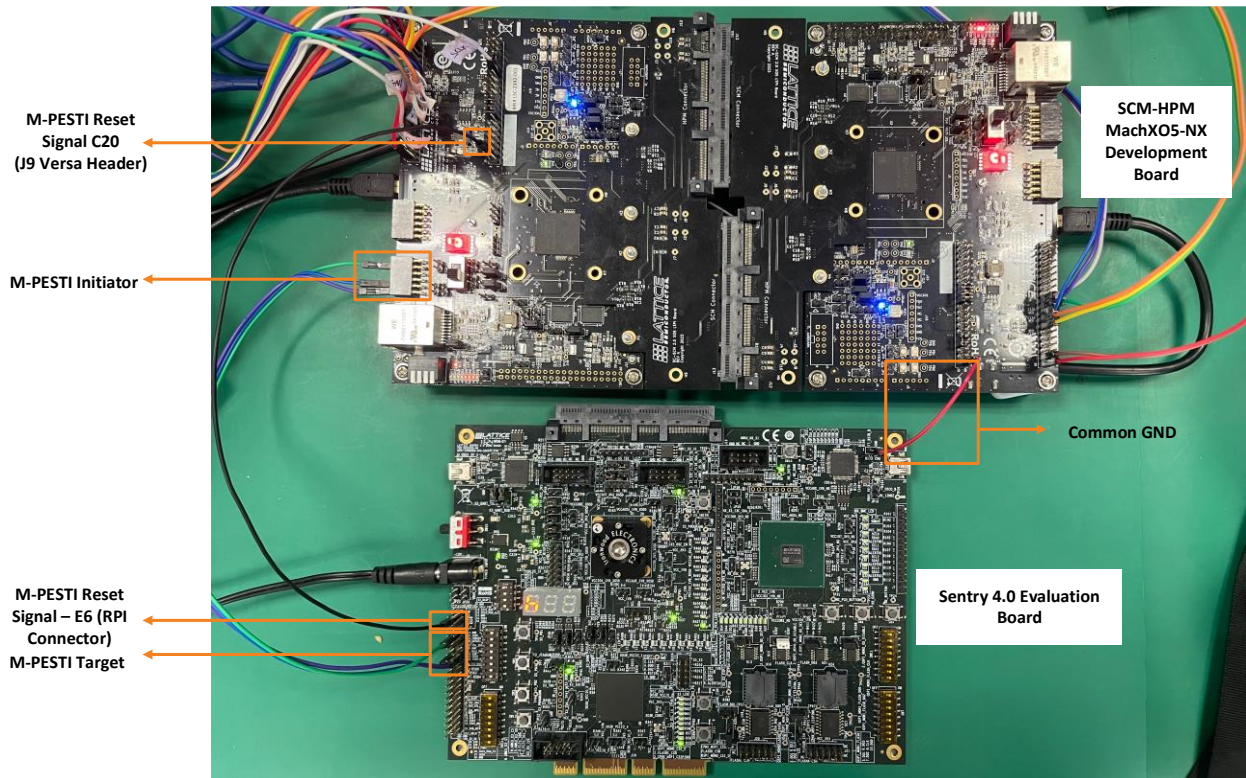
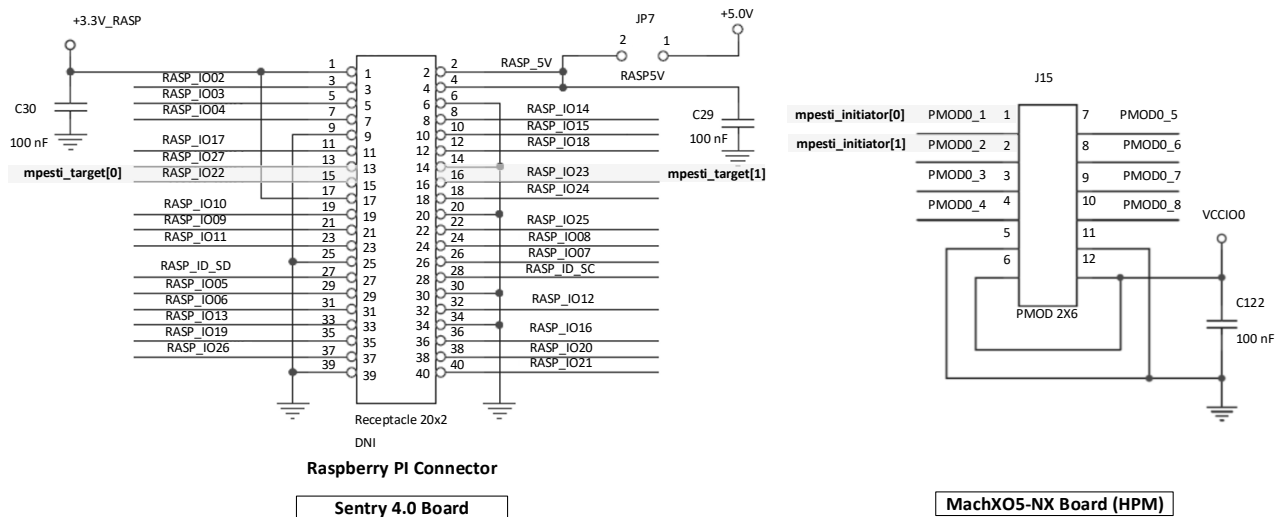

Figure 6.12. M-PESTI Demonstration Jumpers
Figure 6.13. M-PESTI Initiator to M-PESTI Target connection
1. Using jumper wire, connect pin E6 of RPI connector of the Sentry 4.0 board to pin C20 of J9 versa header connector of the MachXO5-NX Development Board, as shown in Figure 6.12. This pin serves as the M-PESTI reset signal. Also, connect common ground for the MachXO5-NX Board and the Sentry 4.0 board.
2. Connect the M-PESTI Initiator pins on the MachXO5-NX device to the M-PESTI target of MachXO3D device on the Sentry 4.0 board, as shown in Figure 6.12. See Figure 6.13 for pin mapping information.